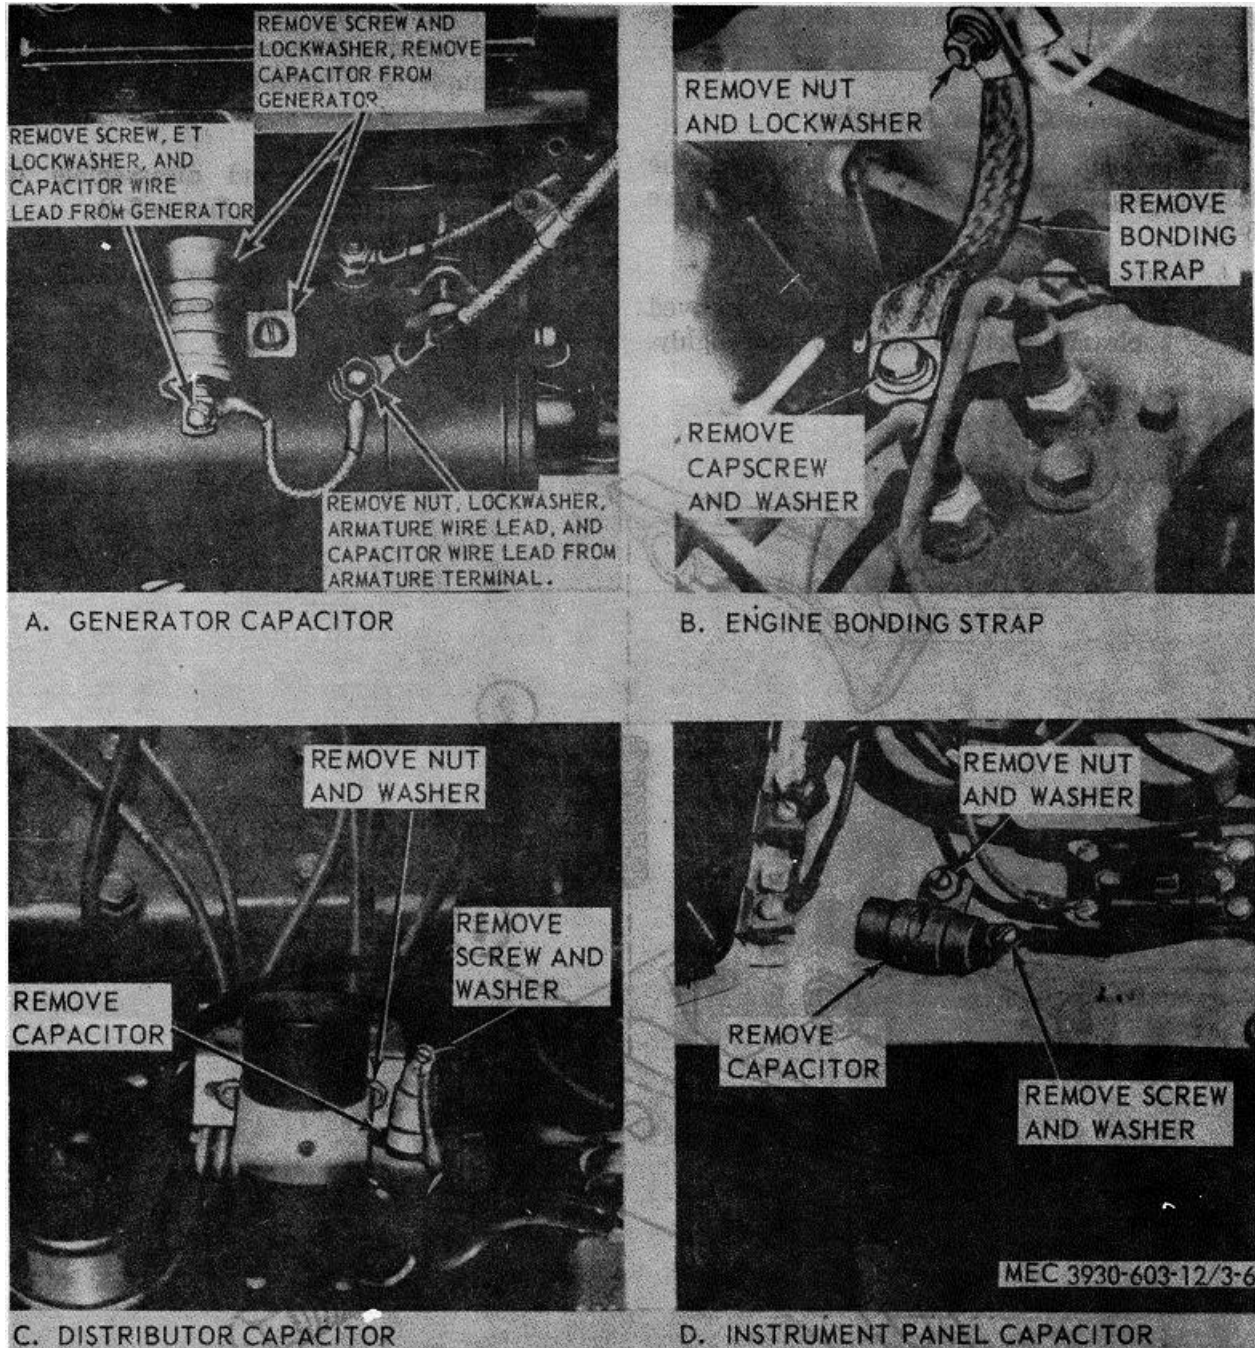

Figure 3-6. Interference suppression components, removal and installation.
*a. Primary Suppression Components.* The primary suppression components are those whose primary function is to suppress radio interference. These components are described and located in figure 3-6.
Refer to figure 3-6 to replace the radio interference suppression components.